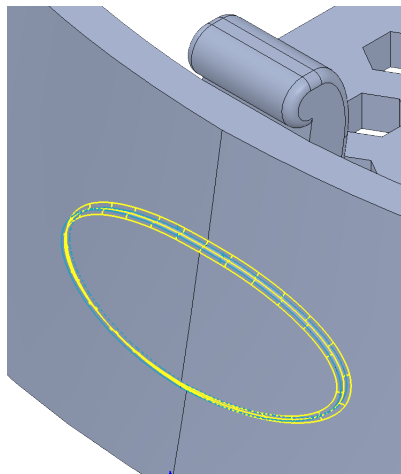

Fig. 124
⑧ **Radius**  .175
click both outside edges of Wrap1 (2), Fig. 124